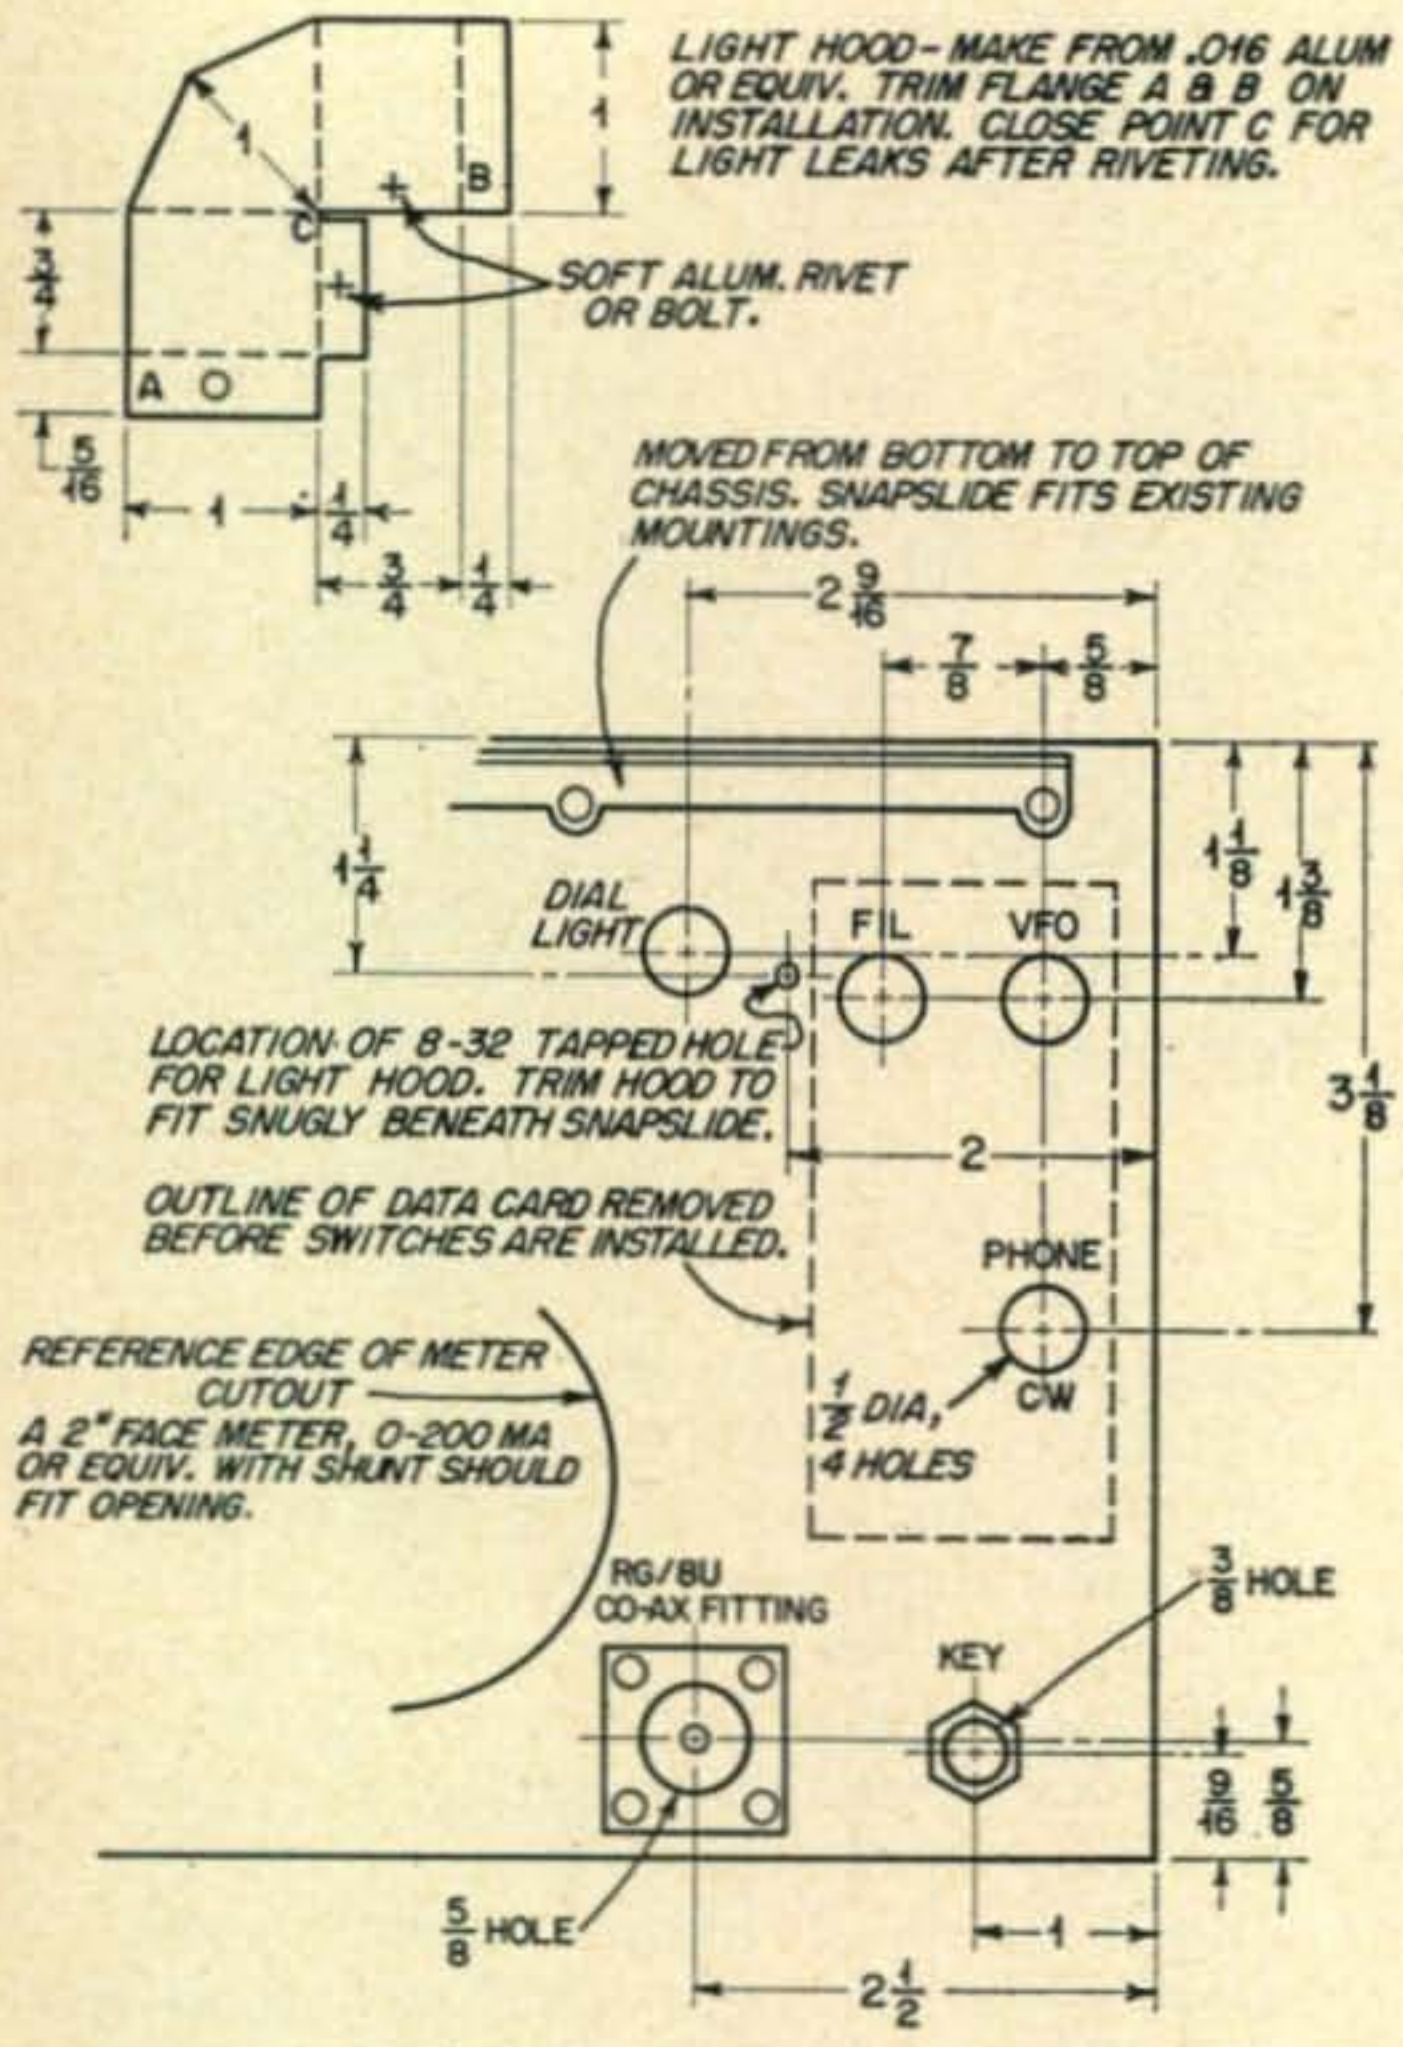

Fig. 2. Drilling template.
3. Dimensional details for installation of all switches are shown in figure 2. The panel lamp and hood location is a compromise of several trial installations which even included an edge lighted lucite panel. The simple hooded light provides good night-time illumination at an angle which has not proven distracting. Incidentally the edge lighted panel would have required a minimum of three bulbs for which mounting space was not available.